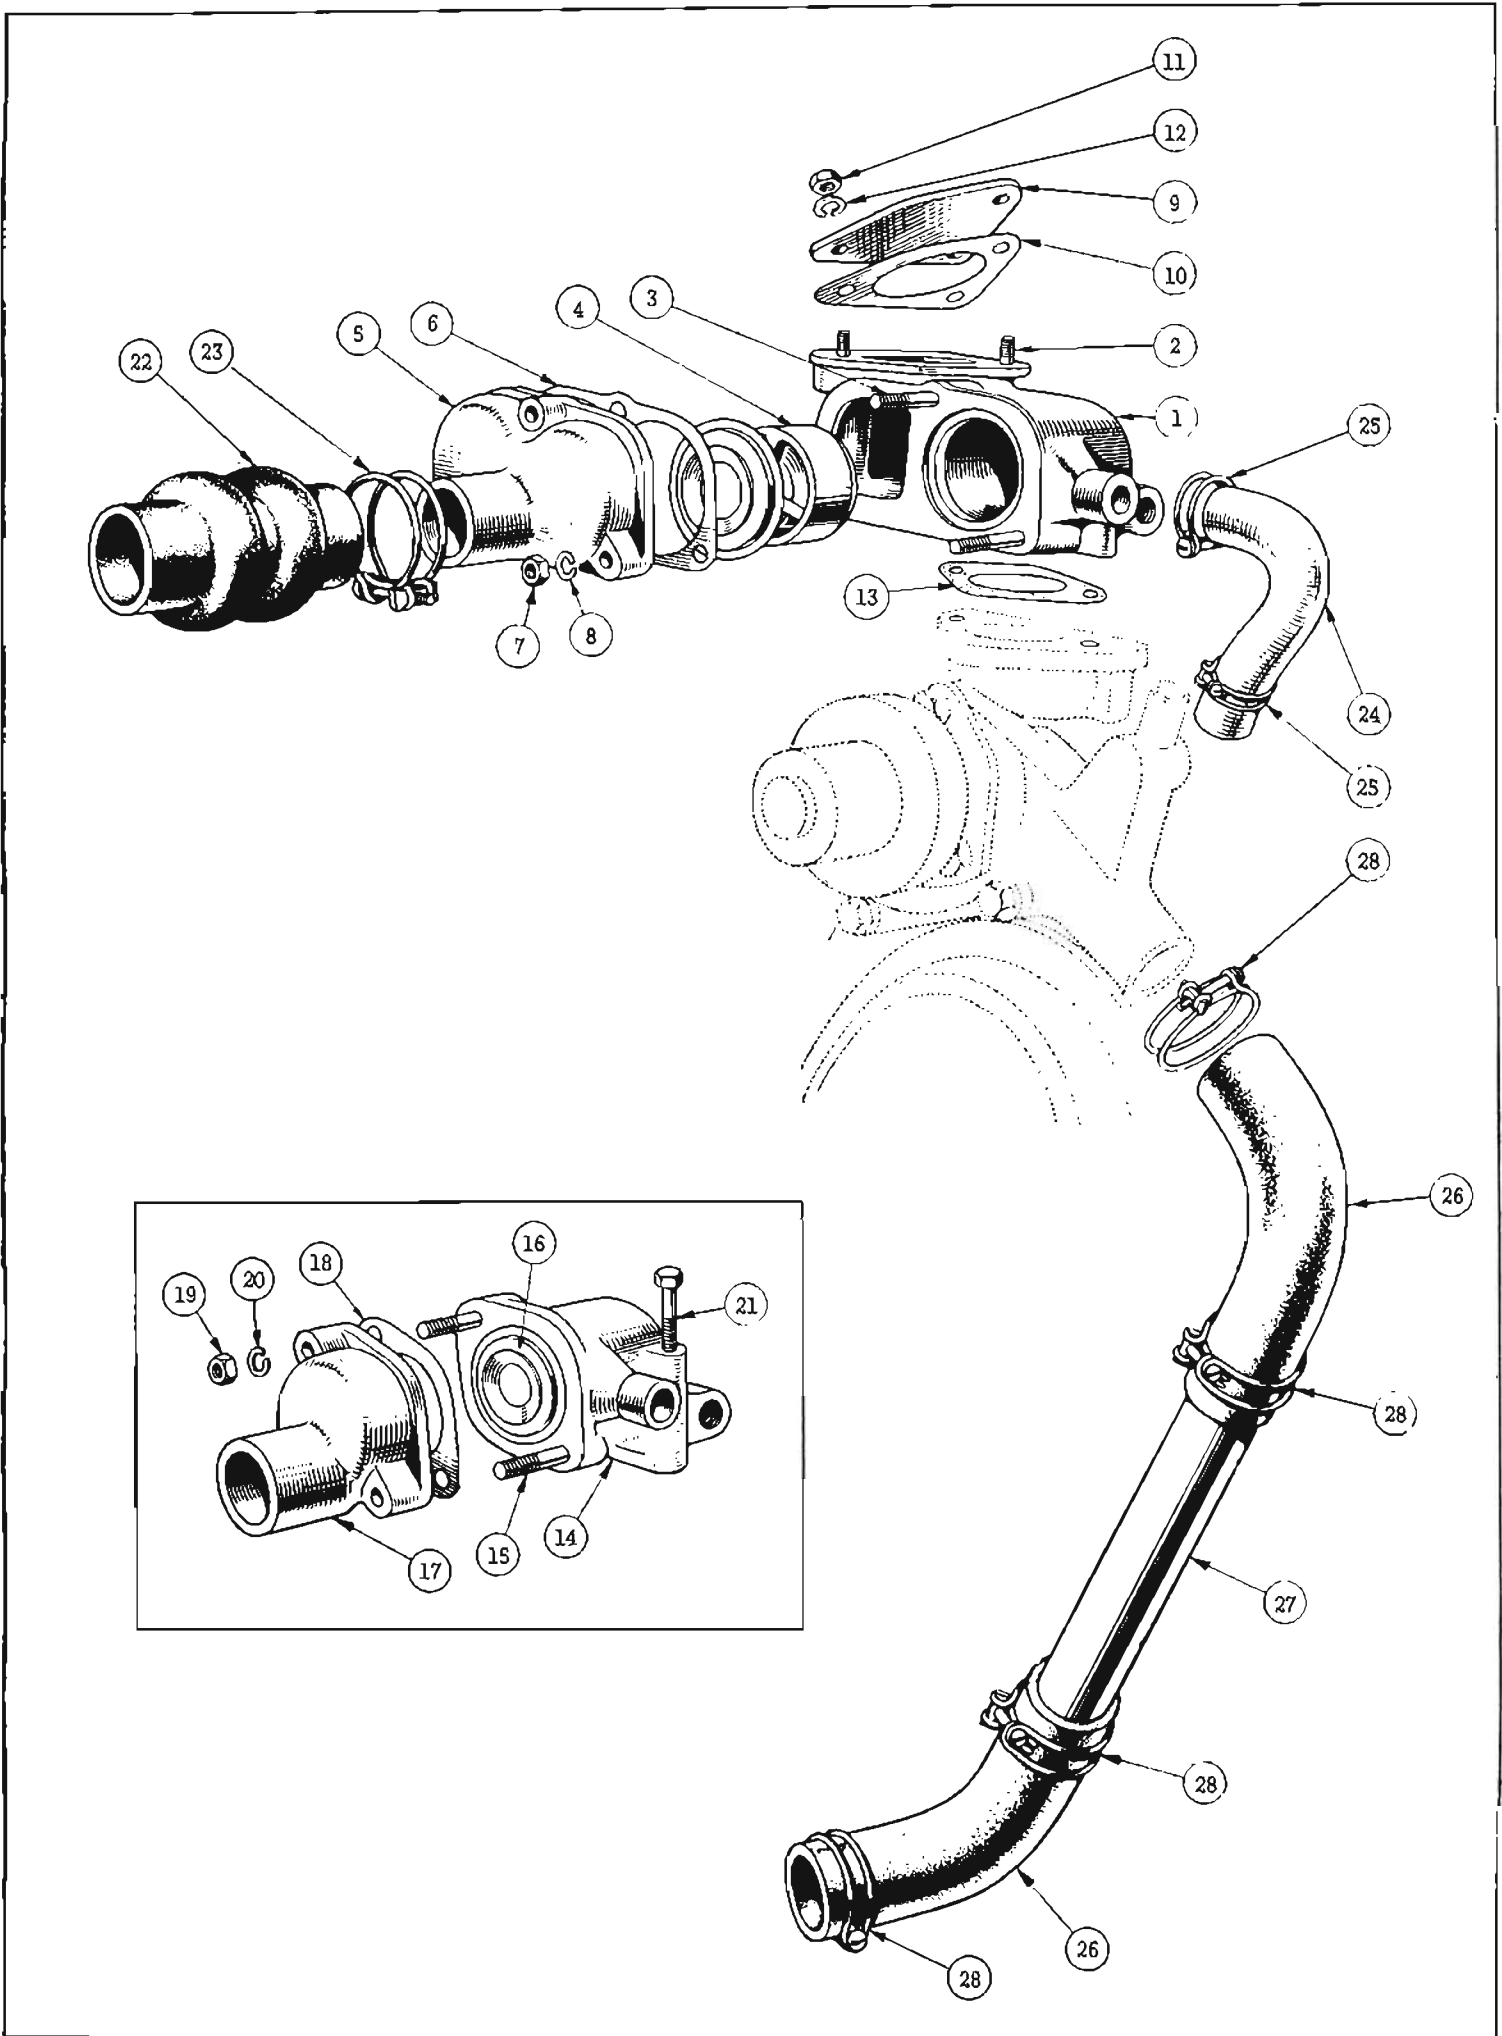

Fig. 5 Exploded details of Thermostat Housings (the housing in the insert is that fitted to current production cars). Cooling System hoses are also shown.
NOTATION FOR FIG. 5
5. TO REMOVE THE THERMOSTAT HOUSING (with thermostat) (Fig. 5)
TO REMOVE THE THERMOSTAT ONLY (Fig. 5)
15. FLEXIBLE HOSE CONNECTIONS (Fig. 5)